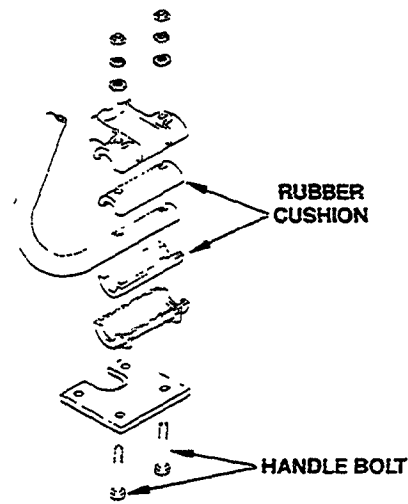

Figure 3
- Install the rear handle by first removing its bolts, lower bracket and cushion. (Figure 3).
- Assemble as shown in (Figure 3) making sure the rubber cushions are properly positioned.